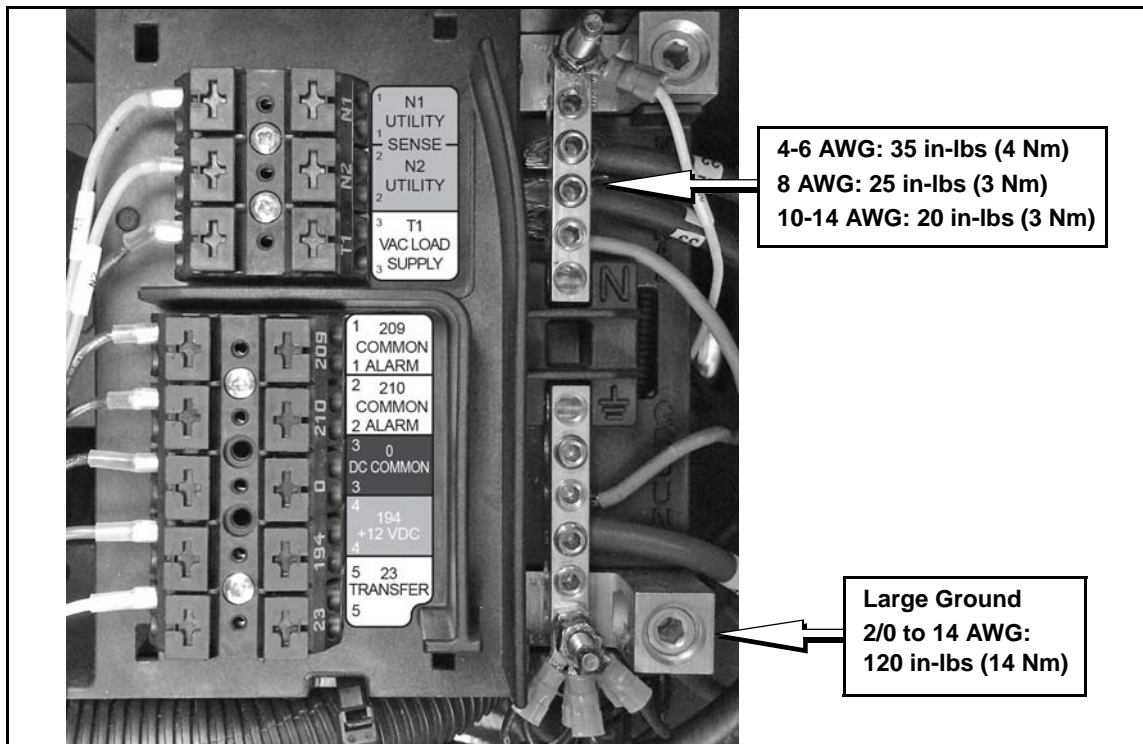

Figure 6-1. Control Wiring Torque Specifications
5. Connect the Neutral wire to the Neutral Lug and tighten to specification. See Figure 6-1.
6. Connect the Ground wire to the Ground Lug and tighten to specification. See Figure 6-1.
NOTE: Neutral Bonding - For installations that require the neutral to be bonded to the ground, this is to be done on the customer connections terminals inside the generator. Connect a suitably sized wire from the neutral bar to the ground bar. This is normally required when the generator is the source in a separately derived system. It is not required when the generator is a backup source in a utility supplied electrical system with a 2-pole transfer switch. See Figure 6-1.